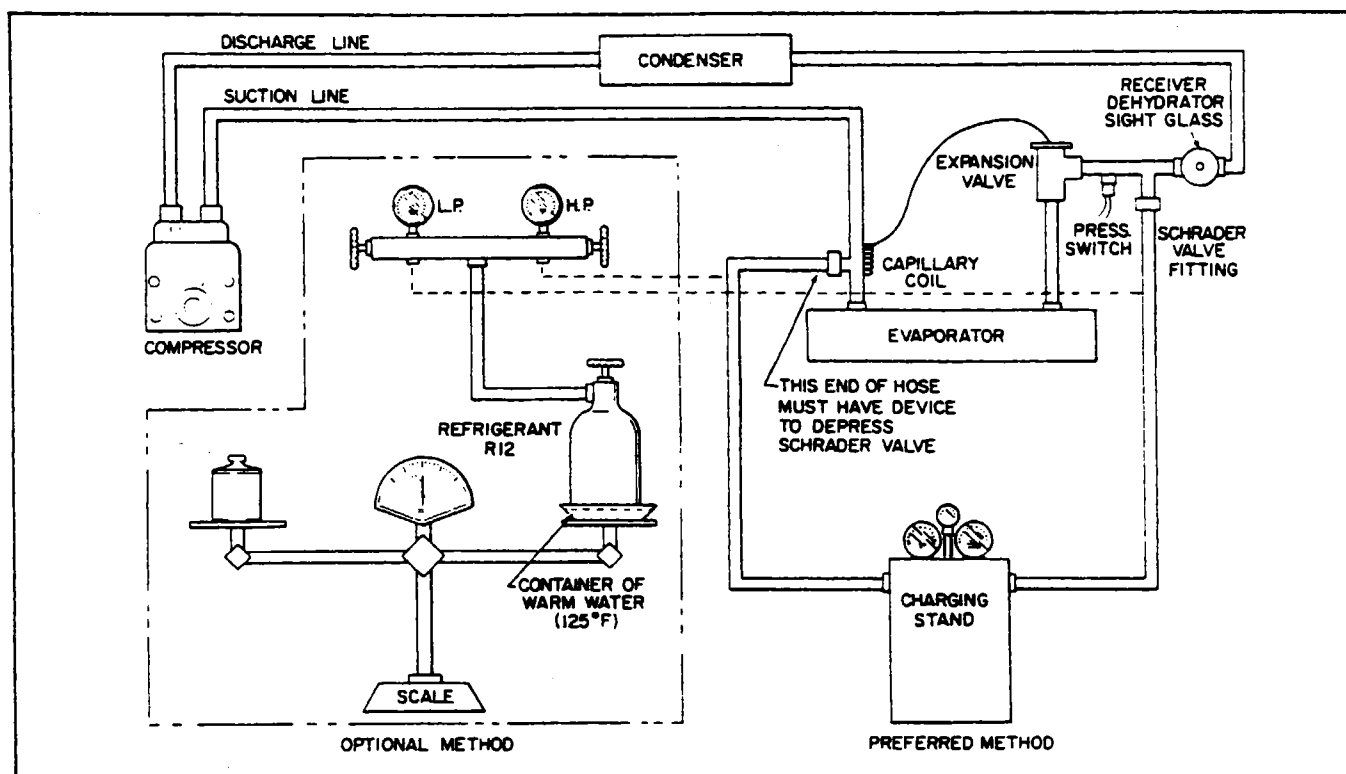

Figure 14-30. Charging Hookup
- a. With the system discharged and evacuated, proceed to hook-up the charging stand. (Refer to Figure 14-30.)
- a. With the system evacuated as outlined in Paragraph 14-104, connect the refrigerant charging hose to the manifold (refer to Figure 14-30) and purge the charging hose of air.
- b. Connect a charging hose to a refrigerant cylinder and also to the Schrader valve fitting on the suction line. (Refer to Figure 14-30.)